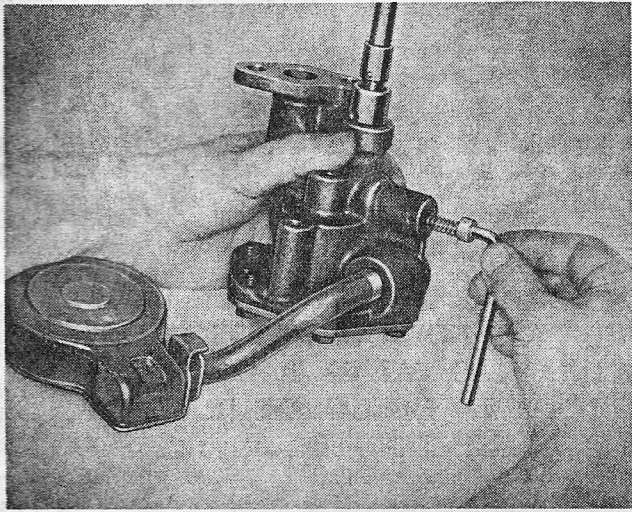

FIG. 1
5. Install the relief valve and spring, start the flanged end of the tube in the housing with small end of tube pointing downward. (Toward bottom of pump). (See Fig. 1).